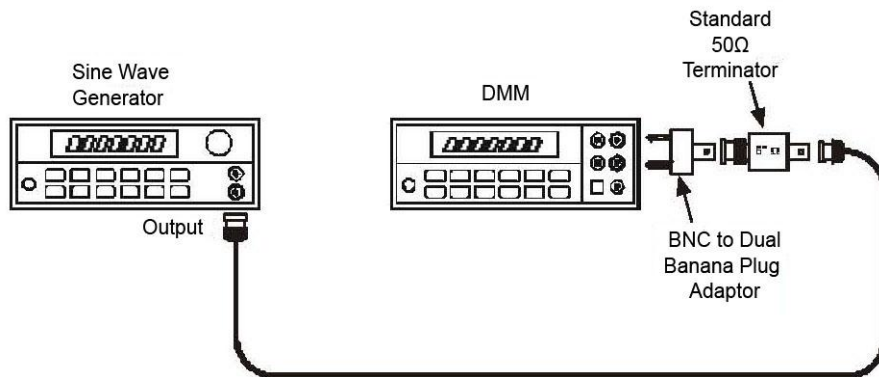

Figure 14, $\div 10$ Attenuator Accuracy
- d. Connect the terminated output cable from the sine wave generator to the DMM using the BNC to Banana Plug adaptor. Refer to Figure 14.